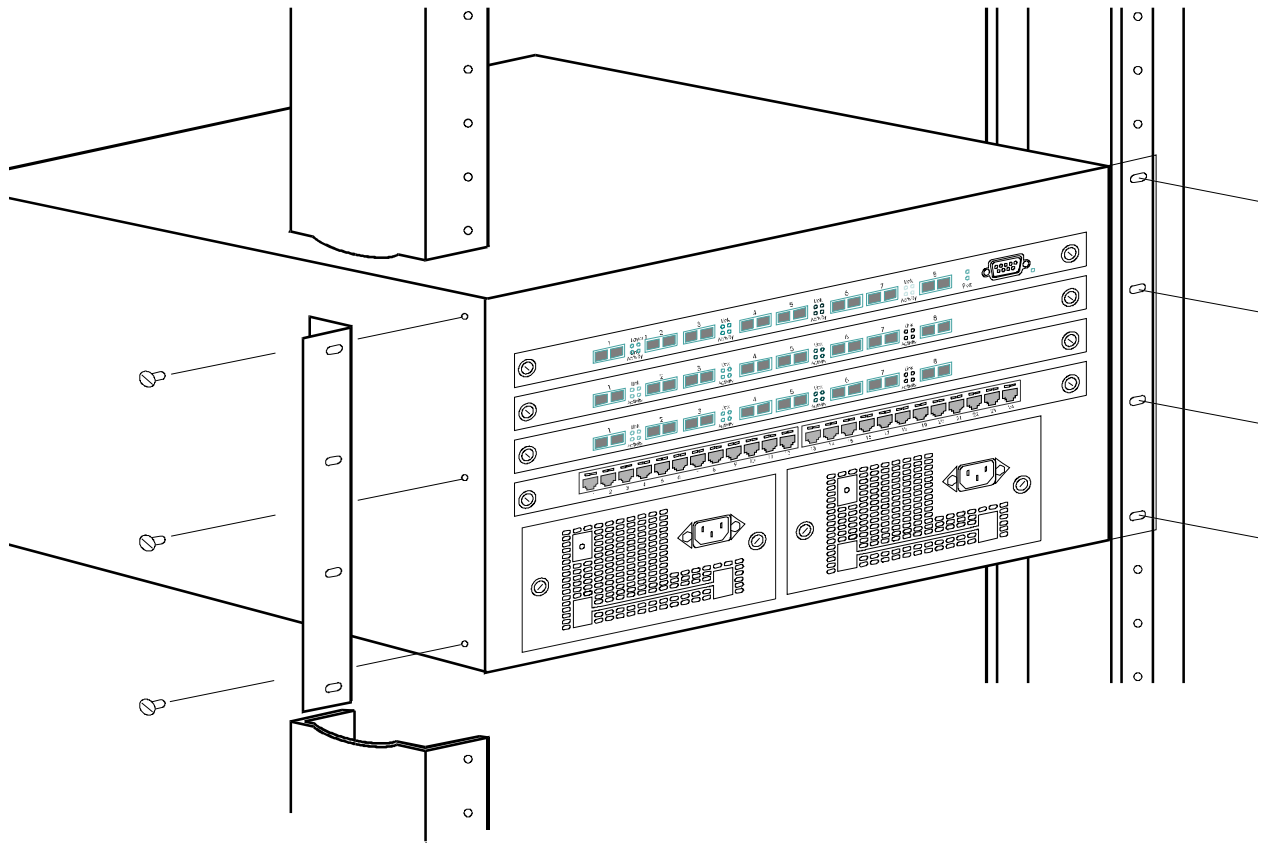

Figure 2.7 Installing a 9304M routing switch in a rack mount
2. Attach the mounting brackets to the sides of the routing switch as illustrated in **Figure 2.7**.
3. Attach the system in the rack as illustrated in **Figure 2.7**.